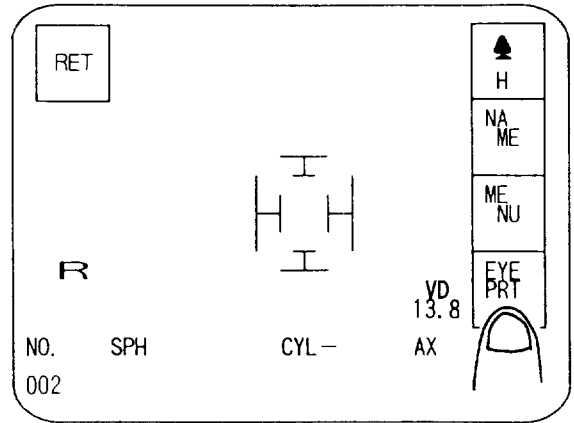

Figure 3-16
- ③ The $\begin{matrix} \text{EYE} \\ \text{PRT} \end{matrix}$ key will appear in the lower right hand part of the screen (see Figure 3-16).